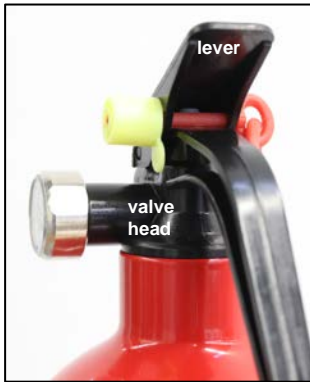

Figure 2: upright position
2. Put extinguisher in upright position onto a flat and even surface with safety pin in place (Figure 2).